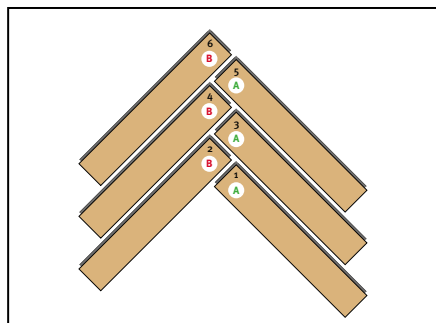
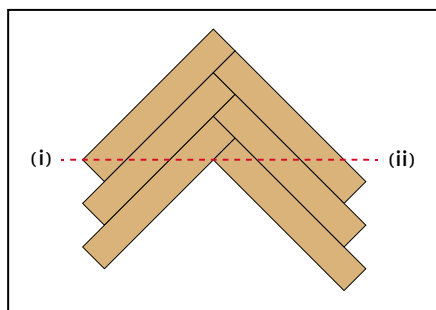

Figure 25
Figure 26
- > Take A-planks and B-planks and position them as shown in (Fig 25).
- > Install the planks precisely and in the order indicated by the numbers on the planks in (Fig 25). Carefully check that each individual plank is correctly aligned and engaged. Mark a line from points (i) to (ii) as illustrated in (Fig 26), ensuring that a 45 degree angle is achieved.